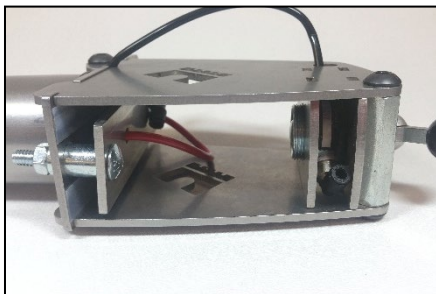

Fig 63
6. Disconnect the black hose from the top valve. (Fig 63)